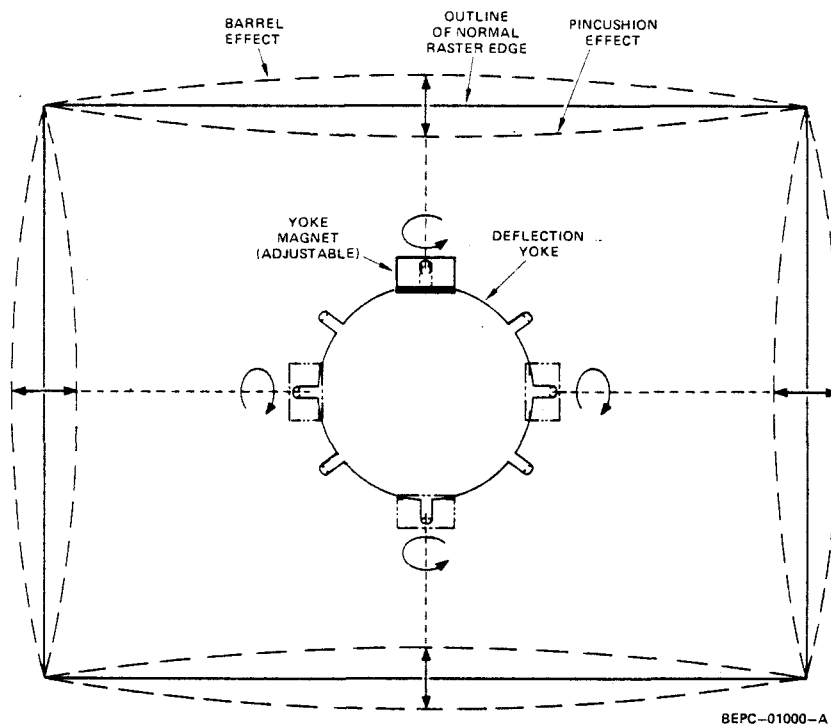

Figure 13. Pincushion/Barrel Effects and Adjustment
Perform this adjustment if the raster exhibits the abnormal effects shown in Figure 13.
- Step 1. Push a magnet on the yoke mounting pin as shown in Figure 13. A magnet should be placed only on the pin that corresponds to the affected area.
- Step 2. Rotate the magnet to obtain the desired raster, labeled "NORMAL" on Figure 13.